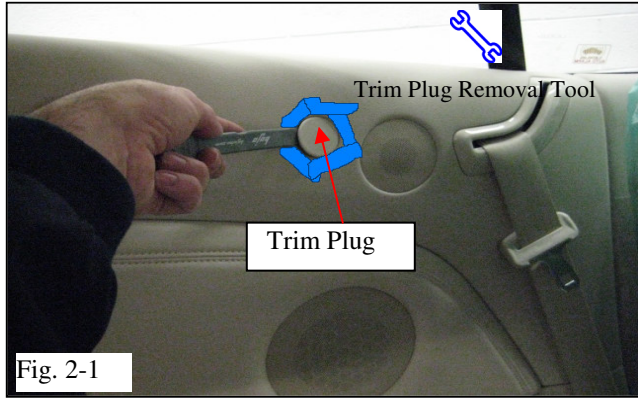

Fig. 2-1
- (a) Locate the trim plug in the inner rear trim panel. (Fig. 2-1)
- (c) Using the trim plug removal tool, carefully remove the trim plug starting from the rear edge of the plug as shown in Fig. 2-1.